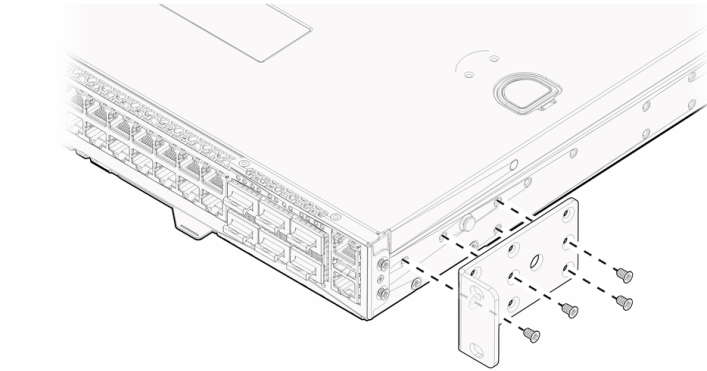

Figure 14: Flush-Mount: Attaching Short Mounting Brackets
- Figure 14 shows a flush-mount configuration using a short mounting bracket.